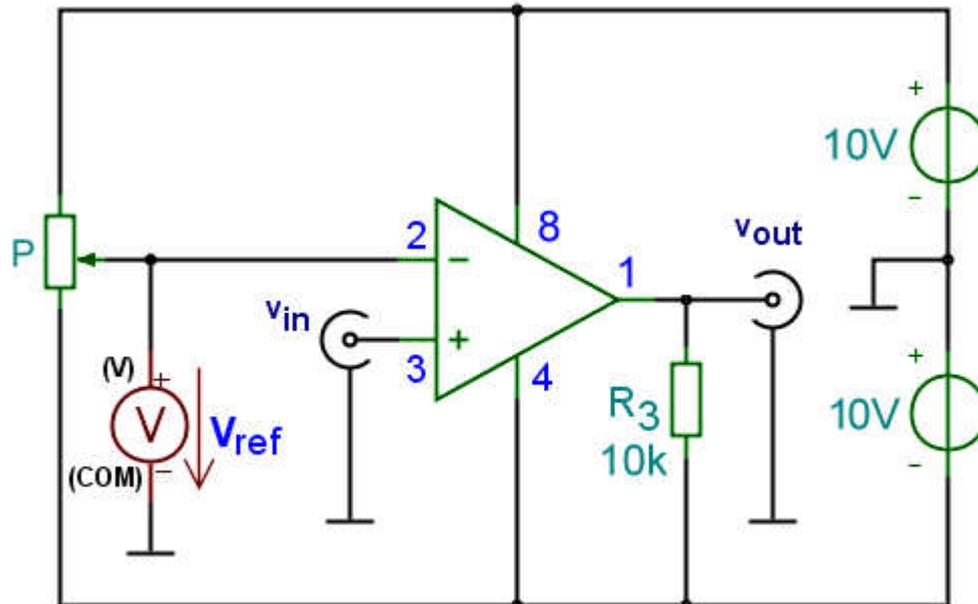

Figure 5.3 : Comparator circuit
5.3.1 Build the circuit of figure 5.3. This is a simple comparator. The reference voltage is supplied by potentiometer P. Measure this V_{ref} voltage with the multimeter.